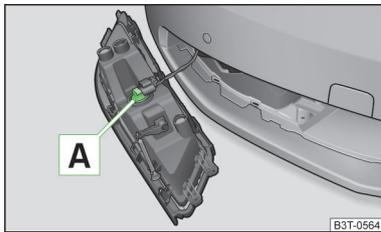

Fig. 207
- Turn bulb holder **A** » Fig. 207 in an **anti-clockwise** direction up to the stop and remove.